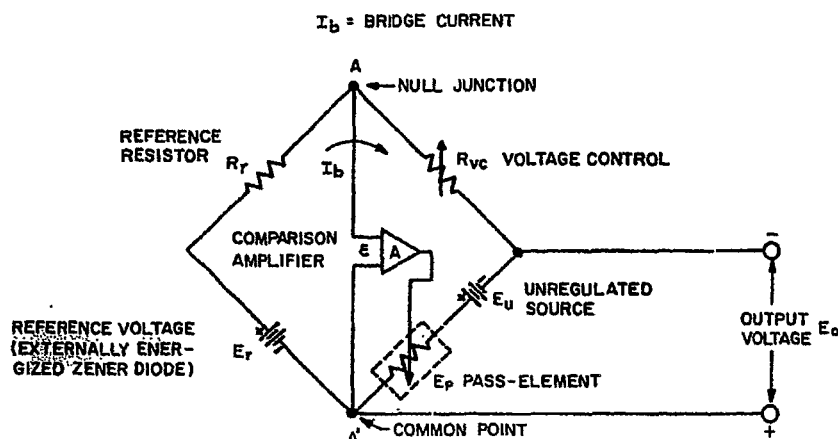

FIG. 3-3 KEPKO POWER SUPPLY CIRCUIT WITH COMPARISON BRIDGE (SIMPLIFIED)
- 3-9 GENERAL. A few general remarks may be in order to familiarize the user of this equipment with the terminology and basic equations pertaining to remote programming of Kepco Power Supplies. Electrically, the power supply, consists of the unregulated DC source ( $E_u$ ), the pass element ( $E_p$ ), the DC error amplifier (A) and a comparison circuit which resembles a four-arm electrical bridge. (Refer to FIG. 3-3). The elements of the bridge are arranged to produce a virtual zero at the amplifier input when the bridge circuit is at balance ( $V_{AA'} = 0$ ). Any tendency for the output voltage to change in relation to the reference voltage ( $E_r$ ) creates an error signal ( $e$ ) which, by means of negative feedback and the amplifier, tends to correct the output voltage towards restoration of bridge balance.